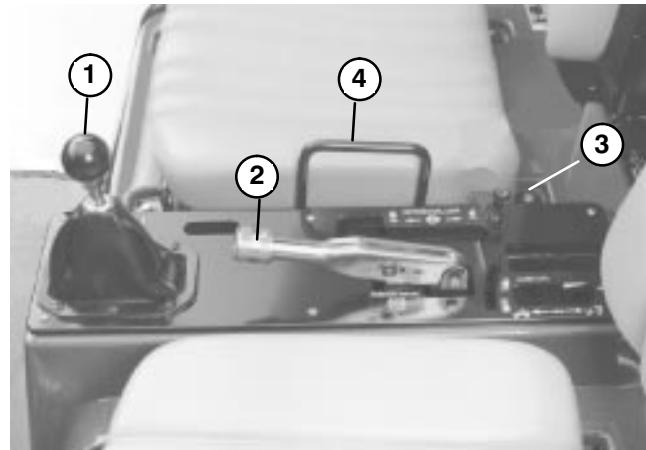

Figure 14
**Gear Shift Lever** (Fig. 14) – Fully depress clutch pedal and move shift lever into desired gear selection. A diagram of the shift pattern is indicated below.
**Differential Lock** (Fig. 14) – Allows rear axle to be locked for increased traction. Differential lock may be engaged with vehicle in motion. Move lever forward and to the right to engage lock.
**Choke** (Fig. 14) – To start a cold engine, close carburetor choke by pulling choke control upward to ON position. After engine starts, regulate choke to keep engine running smoothly. As soon as possible, open the choke by pushing it downward to the OFF position. A warm engine requires little or no choking.
**Parking Brake** (Fig. 14) – Whenever the engine is shut off, the parking brake must be engaged to prevent accidental movement of the vehicle. To engage the parking brake, pull back on lever. To disengage, push lever forward. Make sure parking brake is released before moving vehicle. If vehicle is parked on a steep grade, make sure parking brake is applied. Also, shift the transmission into 1st gear on a uphill grade or reverse on a down hill grade. Place chocks at the down hill side of wheels.
**Hydraulic Lift** (Fig. 14) – Raises and lowers bed. Move rearward to raise, forward to lower.
**Passenger Hand Hold** (Fig. 14) – Left side of passenger seat.